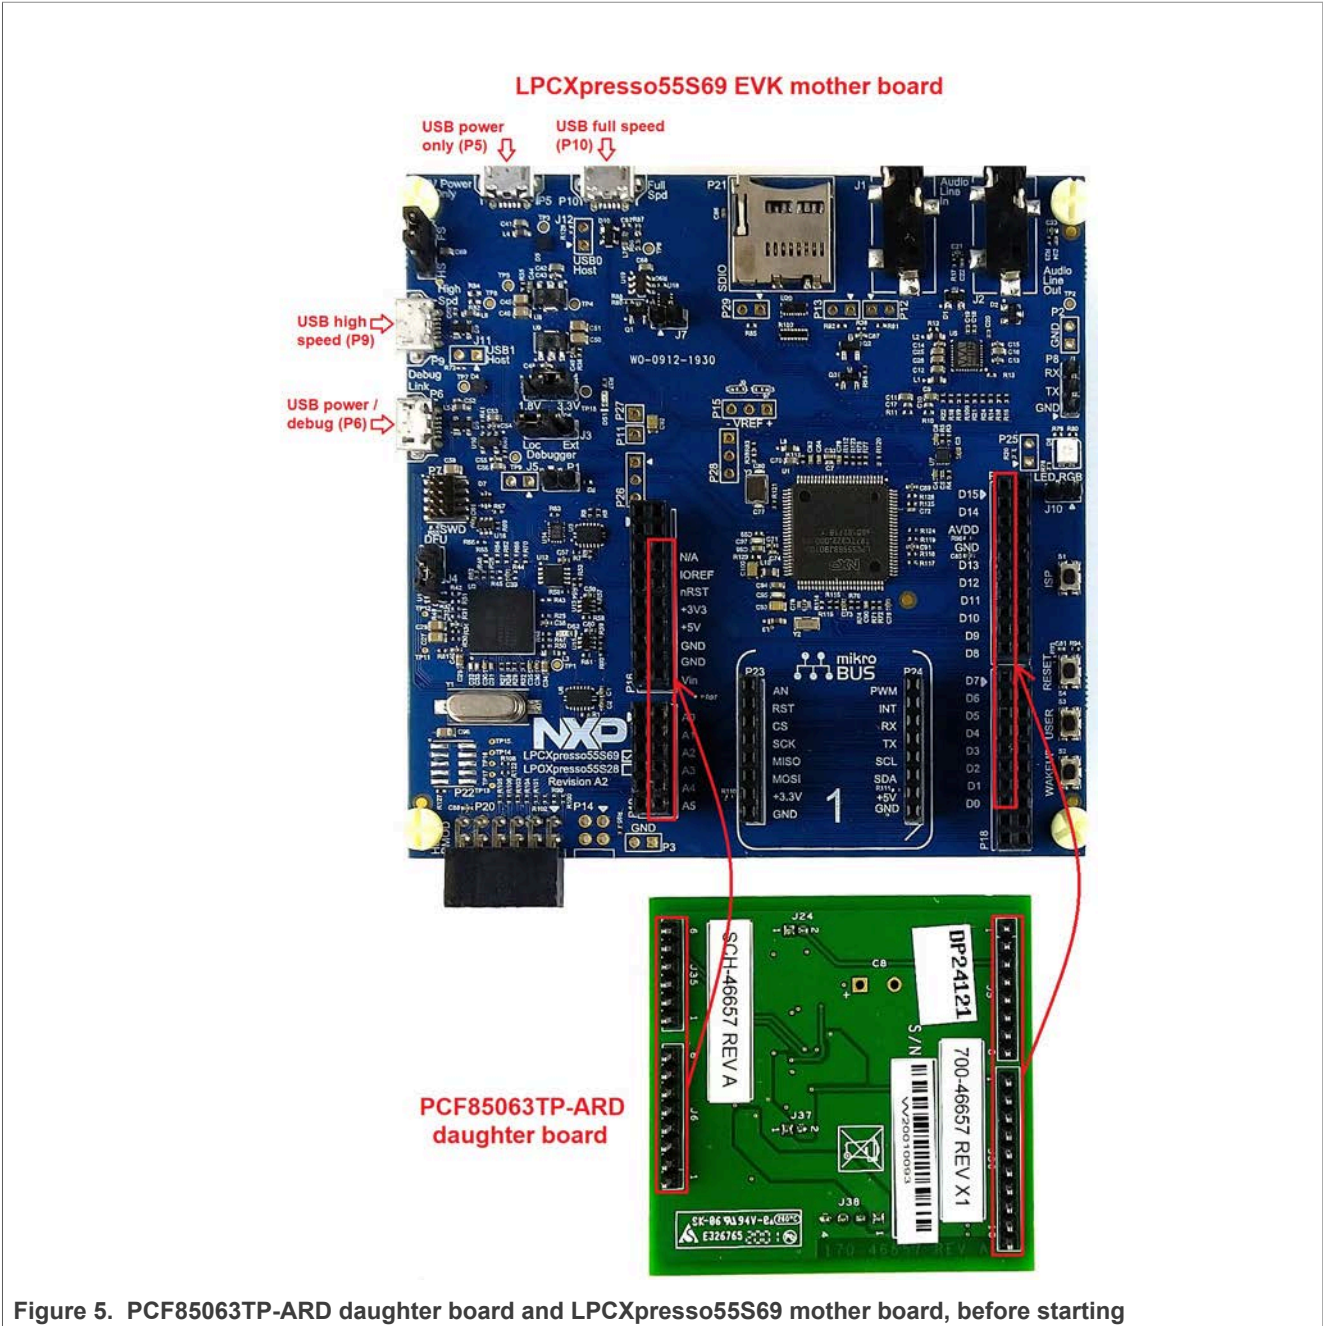

Figure 5. PCF85063TP-ARD daughter board and LPCXpresso55S69 mother board, before starting
Figure 5 shows the required hardware for operation of the PCF85063TP-ARD and LPCXpresso55S69 EVK board. This configuration consists of:
The following steps describe how to assemble, program, and operate the configuration shown in Figure 5.
1. Insert the PCF85063TP-ARD daughter card to P16 – P19 connectors located on LPCXpresso55S69 development board (see the marked pins of P16 – P19, Figure 5);
Figure 5 shows the two boards in operation.